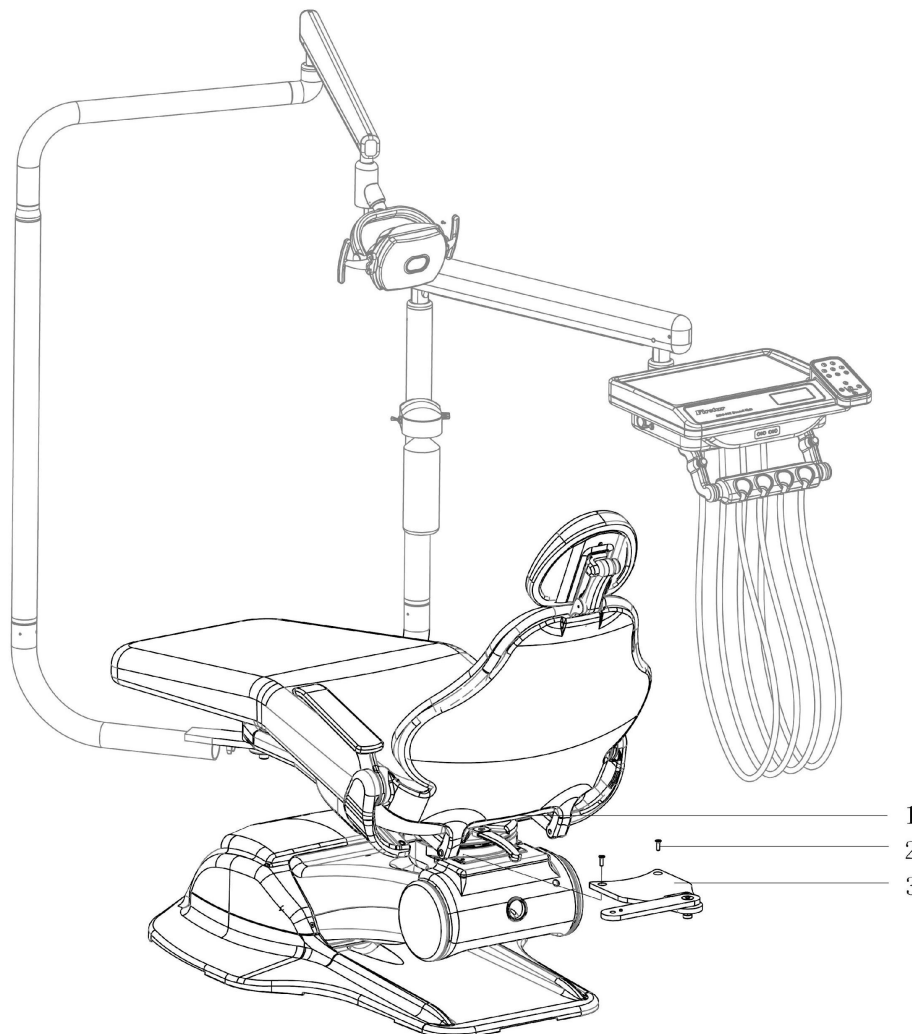

Figure 12. Assistant's System Rear Pivot Chair Adapter Installation
1. Place the Rear Pivot Chair Adapter ③ on top of the dental chair adapter connection.
3. Install the Rear Pivot Chair Adapter ③ to the dental chair ① with two button head screws ② as shown on Figure 12.